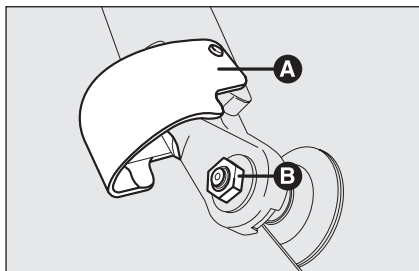

fig. 24
- raise the cover **A**-fig. 24 and remove the arm from the car, slackening the nut **B** that fastens it to the pivot pin;